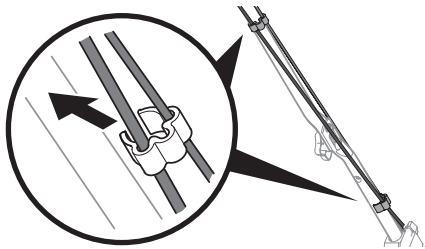

Figure 15
**NOTE:** On select units, use the two cable clips provided to secure blade control and drive cables to lower handle (Figure 15).